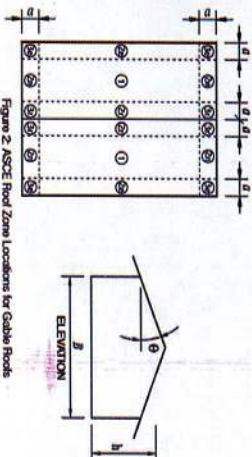

Figure 2. ASCE Roof Zone Locations for Gable Roofs
5. Roof zones are defined by ASCE 7-16 Figure 30.3-2A to Figure 30.3-2I and are organized into three *groups* in which the zones share the same External Pressure Coefficients (GC_p). Roof zones comprising each *group* along with each roof zone's size and location are depicted in Figures 2 and 3 below each span table.